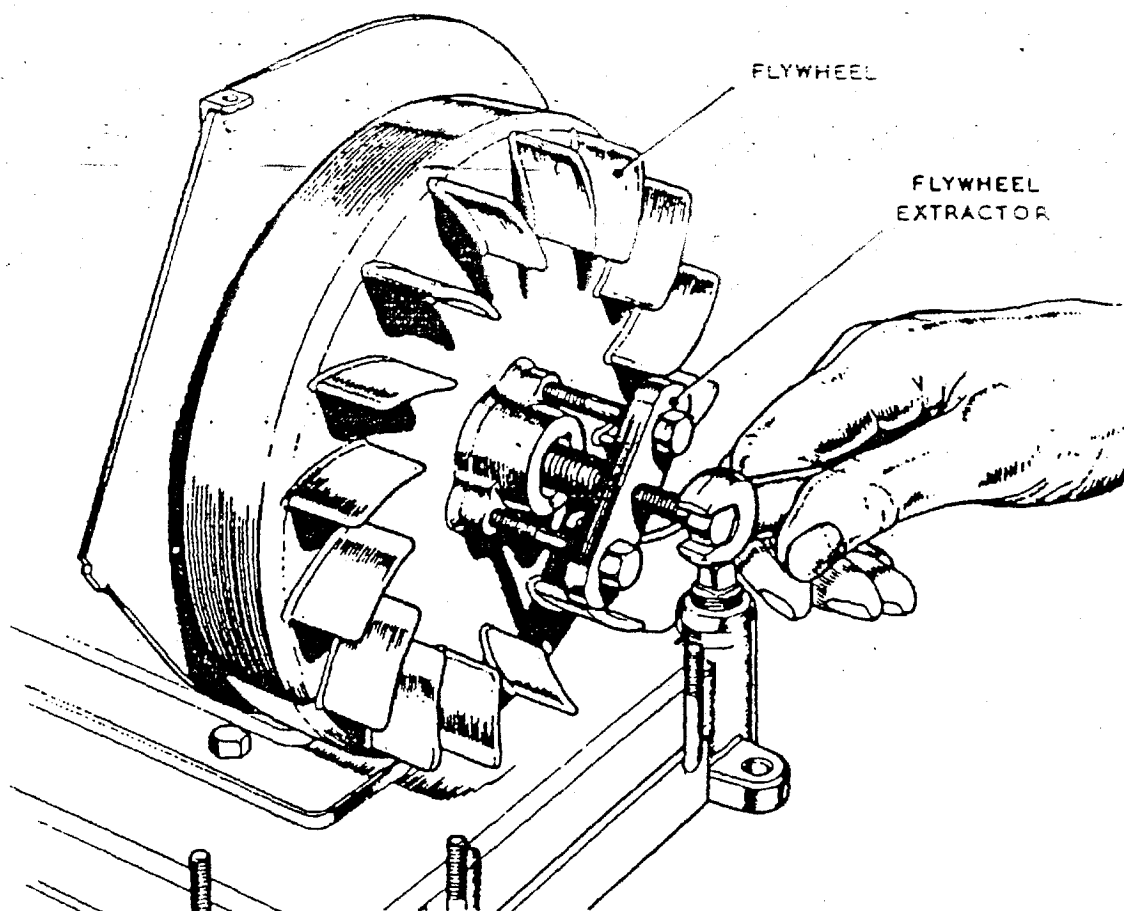

Fig. 20. Removing Flywheel.
3.7. To decarbonise the engine. Figs. 20 to 25.
3.7.1. To remove the engine components. Remove the flexible exhaust pipe by unscrewing it at the socket connection. Remove the choke control and H.T. lead clip from the flywheel casing and remove the casing by sliding it to the left off the two tongues of the magneto armature plate. Remove the air cleaner assembly. Remove the sparking plug cover, disconnect the H.T. lead from the plug and remove the plug. Remove the eight nuts securing the guard frame to the base and remove the frame by lifting it clear of the bolts and tilting the control box side of the frame upwards. Remove the nut, washer, and starting pulley from the flywheel end of the crankshaft. Attach the flywheel extractor as shown in Fig. 20. Do not screw in the two outer screws of the